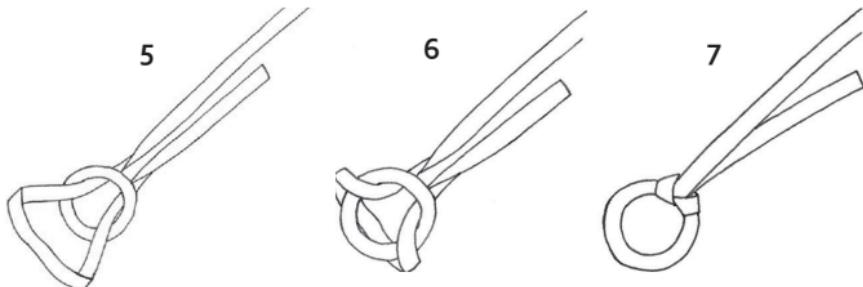

Fig. 12
- Affix the second Express-Ring in the remaining line running out of the pulley as shown in Fig. 12, 5–7.